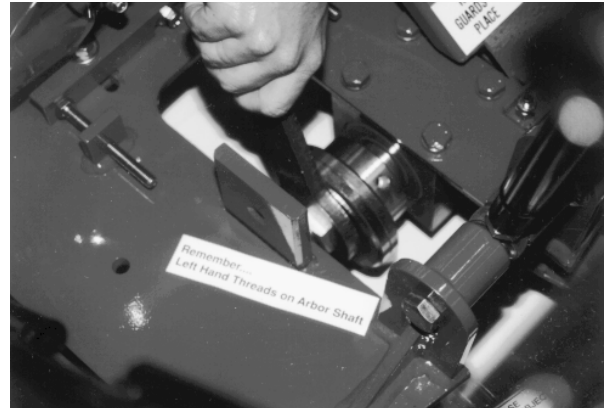

FIGURE 3
4) Remove the blade guard from the main frame with the 3/4 inch wrench to expose the arbor shaft. Using the 1-1/2 inch wrench, remove the hexagon nut and hub flange from the shaft. The arbor shaft incorporates left hand threads. FIGURE 3.